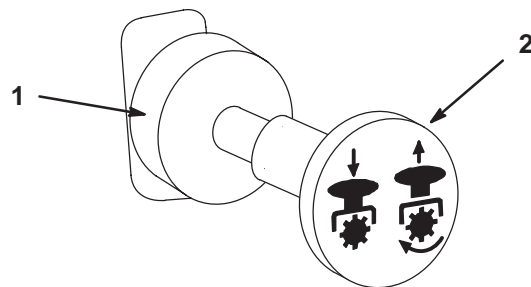

Figure 18
- Pull out on the power take off (PTO) switch to engage (Fig. 18).
1. To disengage push the PTO switch to the off position (Fig. 18).